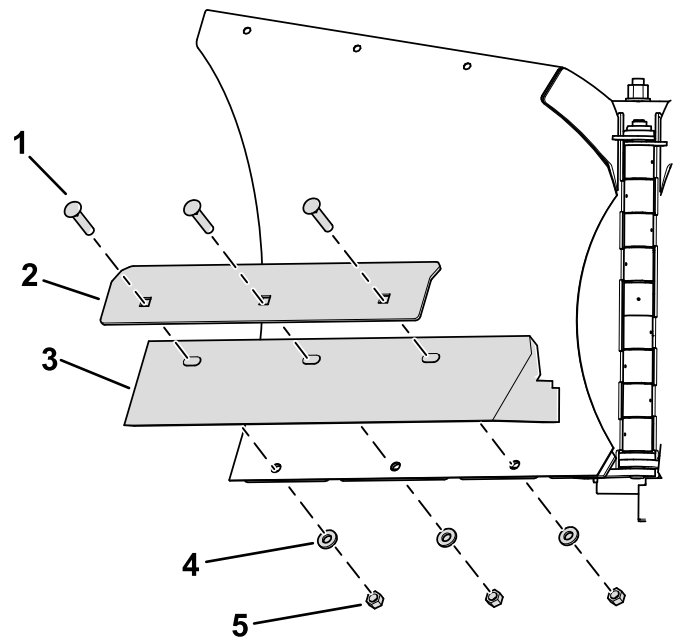

**Figure 1**
3. Remove the existing cutting edges by removing the bolts, washers, and nuts that secure the cutting edges to the blades (Figure 1).